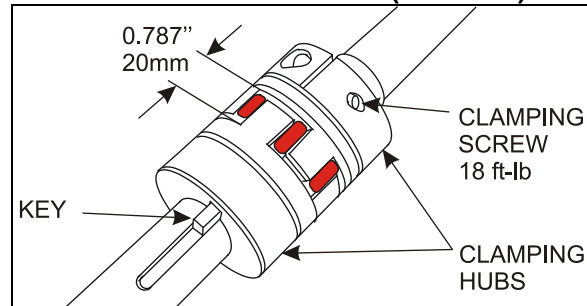

FIGURE 22: JAW COUPLING
8. Reconnect the clamping hubs with the spider. Leave a gap of 20mm (0.787inch) between each clamping hubs as shown on Figure 22. Use the motor hexagonal output shaft to align the keyways.